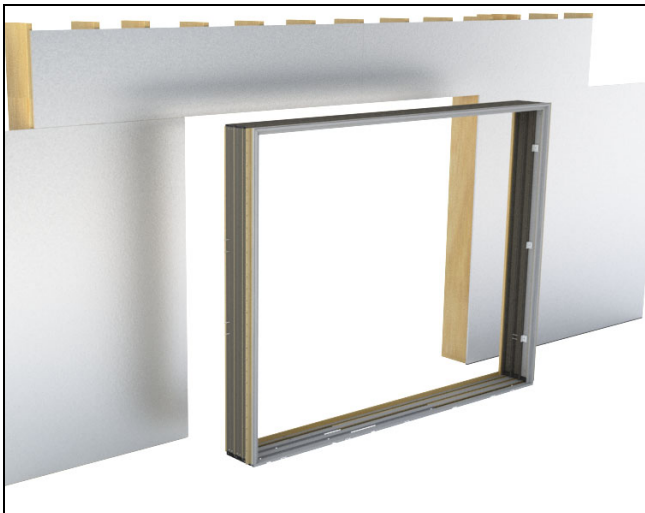

Figure 22
1. Stand frame upright in front of rough opening. See figure 22.